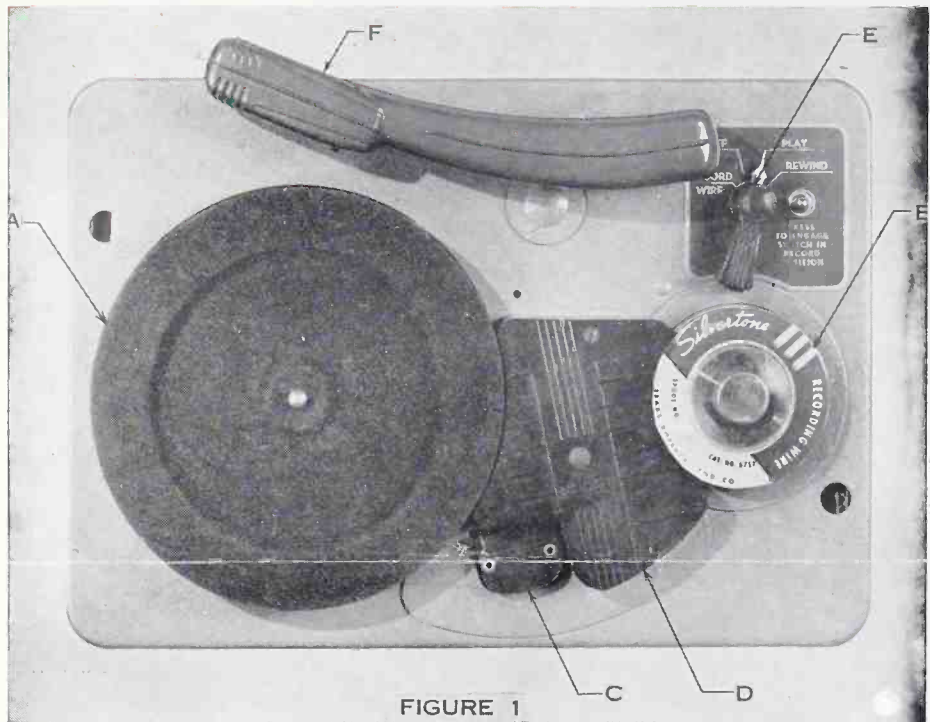

FIGURE 1
Figure 1 is a top view of the mechanism. This consists of (a) a large spool (turntable) which has an inside groove diameter of approximately  $5\frac{13}{16}$ " (b) a supply spool (c) head (d) automatic switch (e) main control (f) tone arm. Turntable B diameter was chosen such that it turns 78 RPM in order to permit the user to have the additional feature of a record player. The supply spool is a band type of spool which presses onto the hub. The recording head oscillates up and down to level wind the wire on the take-up and supply spools. The automatic switch shuts the machine off when the wire comes to the end of the spool. The main control switch has four positions: (1) record, (2) play-back, (3) rewind, and (4) off. Tone arm is used for playing records.